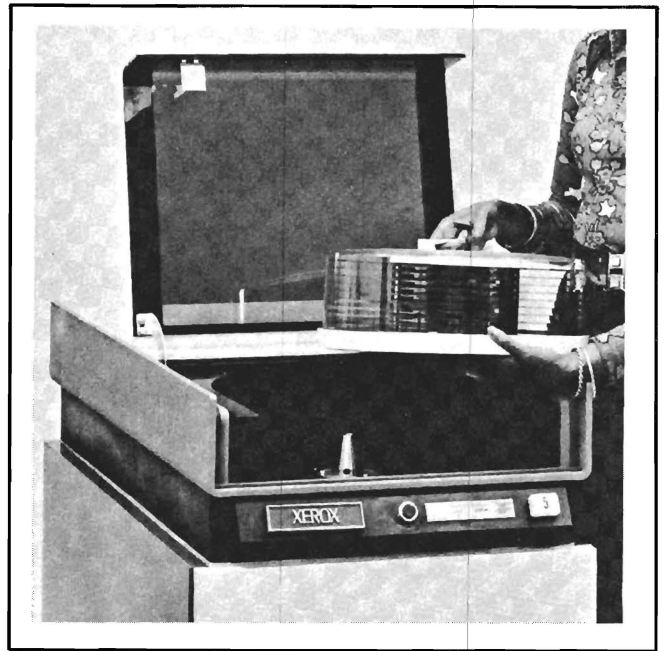

Figure 21. Lifting Disk Pack by Top Canister Handle
2. Lift the disk pack by the top canister handle. Remove the bottom cover of the canister by unscrewing the knob in the center of the bottom cover. Set the bottom cover aside. (See Figures 21 and 22.)